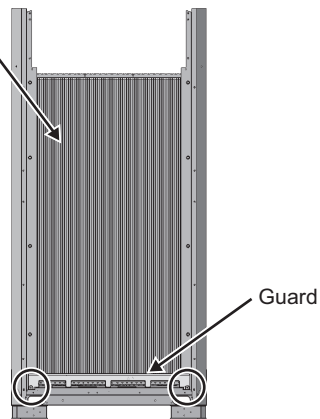

Fig. 48 Rear
(2) Remove the rear guard. (Two screws: Fig. 48)